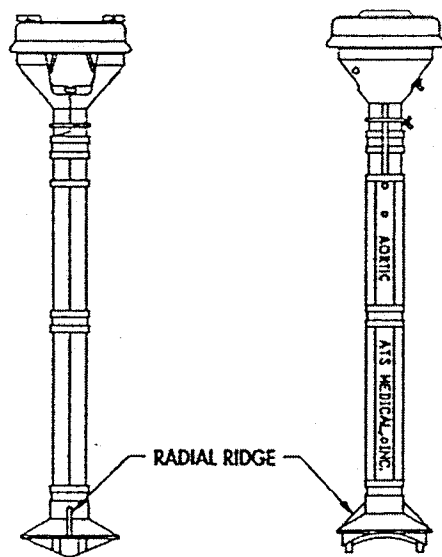

FIGURE 5
- 8) **DO NOT REMOVE THE VALVE HOLDER AND HANDLE/ROTATOR ASSEMBLY FROM THE TRAY** (Figures 5 and 6) until checking to ensure that the valve holder is secured to the handle/rotator. There should be no visible screw threads at the connection between the colored handle/rotator and the white valve holder when secured properly.
Using the blue leaflet actuator, test leaflet motion. If the leaflets do not move freely, the valve orifice may be rotated either clockwise or counterclockwise to a more optimal position. Rotate the orifice only after the suture knots have been tied securing the cuff to the tissue annulus. Use only the appropriate ATS rotators to rotate the valve. The handle/rotator seats properly into the valve orifice when the radial ridge on the handle side of the rotator head (Figures 5 and 6) is aligned with the straight edge of the leaflets. The rotator head is designed to contact the flat surfaces of the orifice near the pivot areas. After rotation of the valve orifice, verify leaflet motion with the blue actuator.